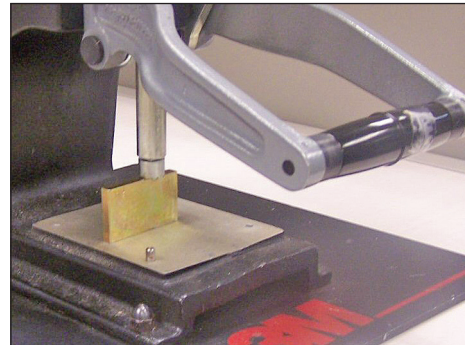

Figure 2: Shut Height Adjustment
- 2.1 Adjust the shut height setting (see Figures 2 through 4).
- 3.3 Place the shut height gauge across the assembly press base. (See Figures 2 and 3)